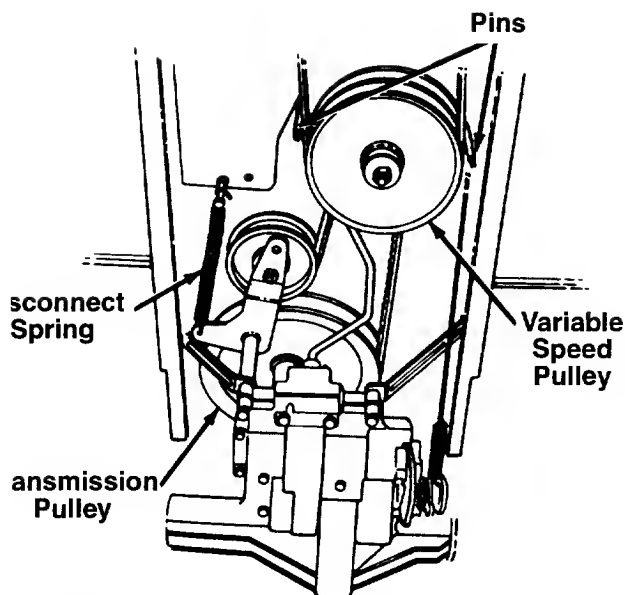

FIGURE 26.
5. Remove the two pins which act as belt keepers by the variable speed pulley. See figure 26.